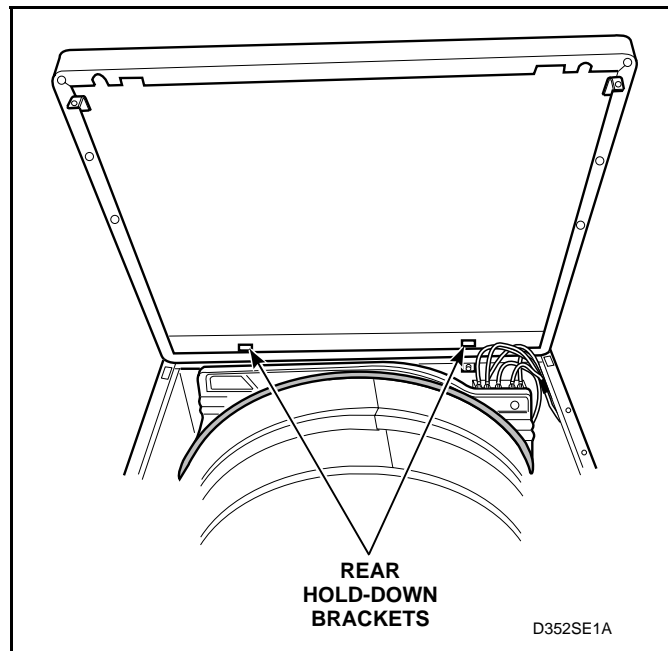

Figure 27
- Lift cabinet top to a vertical position by hinging it on the rear hold-down brackets. See *Figure 27*.